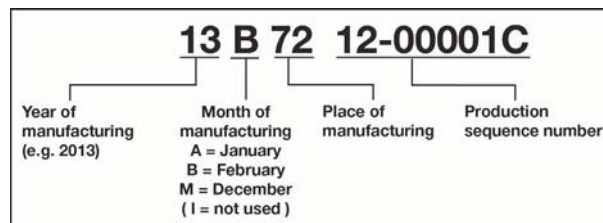

Figure 5-1: manufacturing code with date and place of manufacture
- ⇒ Determine the age of the motor by checking manufacturing code near the type plate (see Figure 5-1).